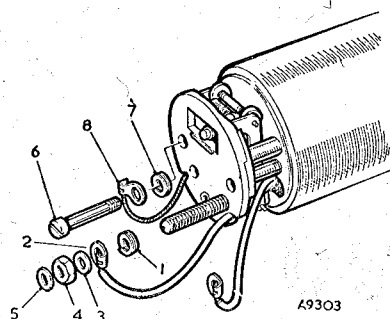

Fig. 4. Attaching the pedestal to the coil housing
3. Assemble the 2 B.A. spring washer (1) (Fig. 4), and put the terminal stud through the 2 B.A. terminal tag (2), then fit the lead washer (3) and the coned nut with its coned face to the lead washer. (This makes better contact than an ordinary flat washer and nut.) Tighten the 2 B.A. nut and finally add the end-cover seal washer (5).
4. Assemble the pedestal to the coil housing (Fig. 4) by fitting the two 2 B.A. pedestal screws (6), ensuring that the spring washer (7) on the left-hand screw (9 o'clock position) is between the pedestal and the earthing tag (8). When a condenser is fitted, its wire clip base is placed under the earthing tag and the spring washer is dispensed with.
5. Tighten the screws, taking care to prevent the earthing tag (8) from turning, as this will strain or break the earthing flex. Do not overtighten the screws or the pedestal will crack. Repeat these operations on the remaining pedestal and rocker assembly.